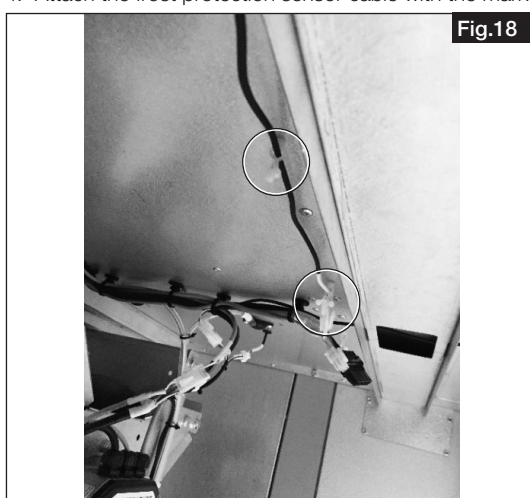

Fig.16
2. Remove the sheet from the panel (see Fig. 16).